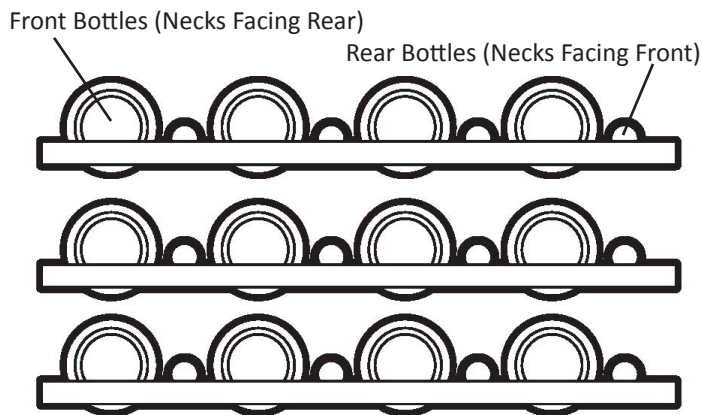

Figure 8
The six (6) roll-out shelves each hold eight (8) bottles. See Figure 8 for typical wine bottle spacing. Care should be taken when storing extra tall bottles in the wine cradle at the bottom of the compartment because they may prevent the door from closing.
The five (5) upper shelves each hold eight (8) bottles in a front to back fashion. See Figures 8 and 9 for typical wine bottle spacing. The bottom shelf holds four (4) bottles in a side to side fashion.